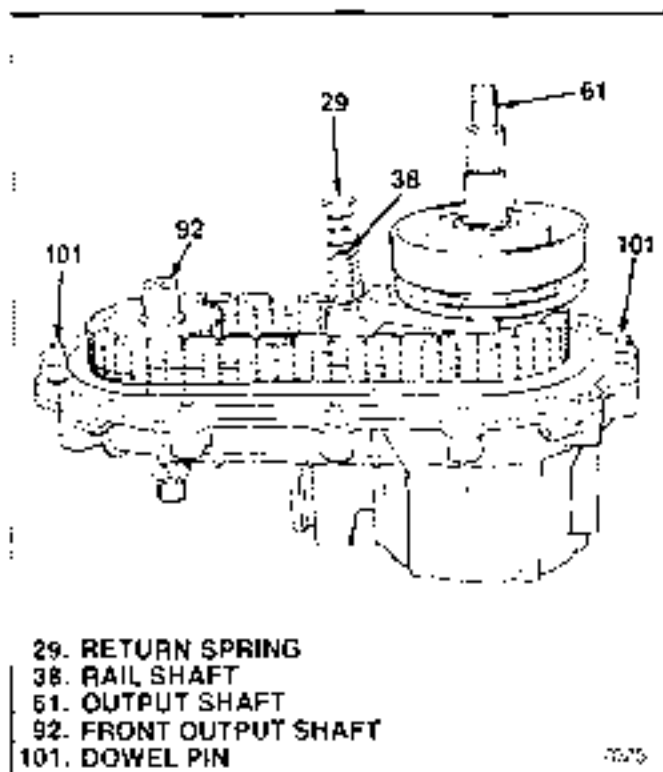

Figure 5-15. Parts To Be Aligned With Cover
d. Install cover assembly (19) on spacer (60) and transfer case (106). All of the following alignment conditions must be met for the cover assembly to seat on transfer case properly (see figure 5-15):
1. Cover holes with transfer case dowel pins (101).
2. Cover bearings with output shafts (61) and (62).
3. Blind hole in cover with rail shaft (38) (make sure spring is not coked).
e. Install ten bolts (17) and torque to 23-30 lb-ft (31-41 Nm).
f. Install two snap rings (16) in separate grooves in output shaft (67).
g. Press speedo rotor (14) onto output shaft (61) to seat against snap ring (16).